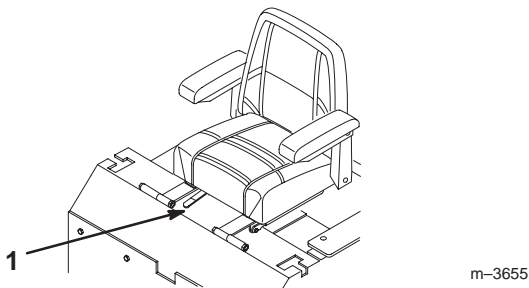

Figure 20
1. To adjust, move the lever sideways to unlock the seat (Fig. 20).